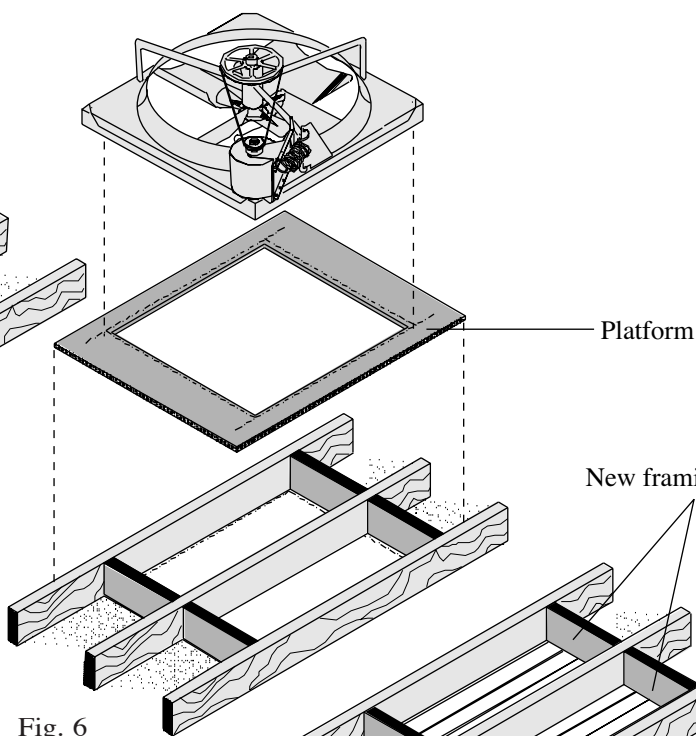

Fig. 6
STEP 3. Frame the opening using lumber EQUAL TO THE SIZE OF THE EXISTING JOISTS. (See fig. 6).
STEP 6. Build a platform to support the fan using lumber, plywood or other suitable material a minimum of $\frac{3}{4}$ " thick. The platform must be constructed so that it supports all four sides of the fan, and should be wide enough to prevent Attic Air from being drawn into the fan. With some combinations of fan and shutter, a portion of the opening may be blocked by the platform. This will not effect the efficiency of the fan. Fasten the platform to the joists and new framing. (See fig. 6).